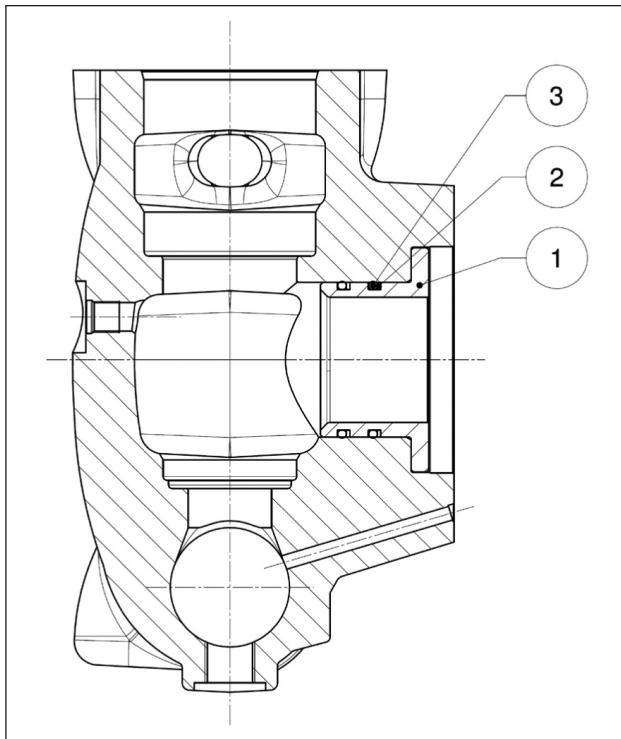
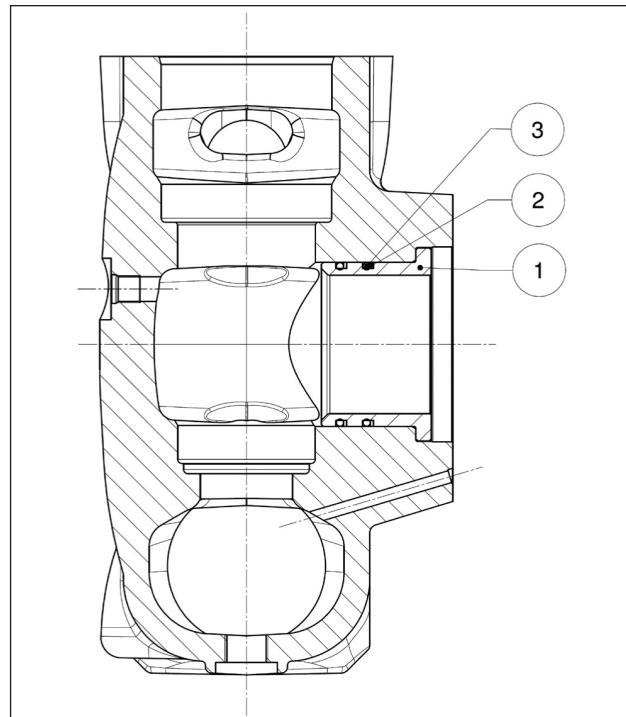

Fig. 148
Fig. 149
The machined head must be assembled by driving in the bushes (pos. ①) together with the anti-extrusion rings (pos. ②) and O-rings (pos. ③) as shown in Fig. 148 for versions with piston Ø40-45-50 and in Fig. 149 for versions with piston Ø 55-60-65: